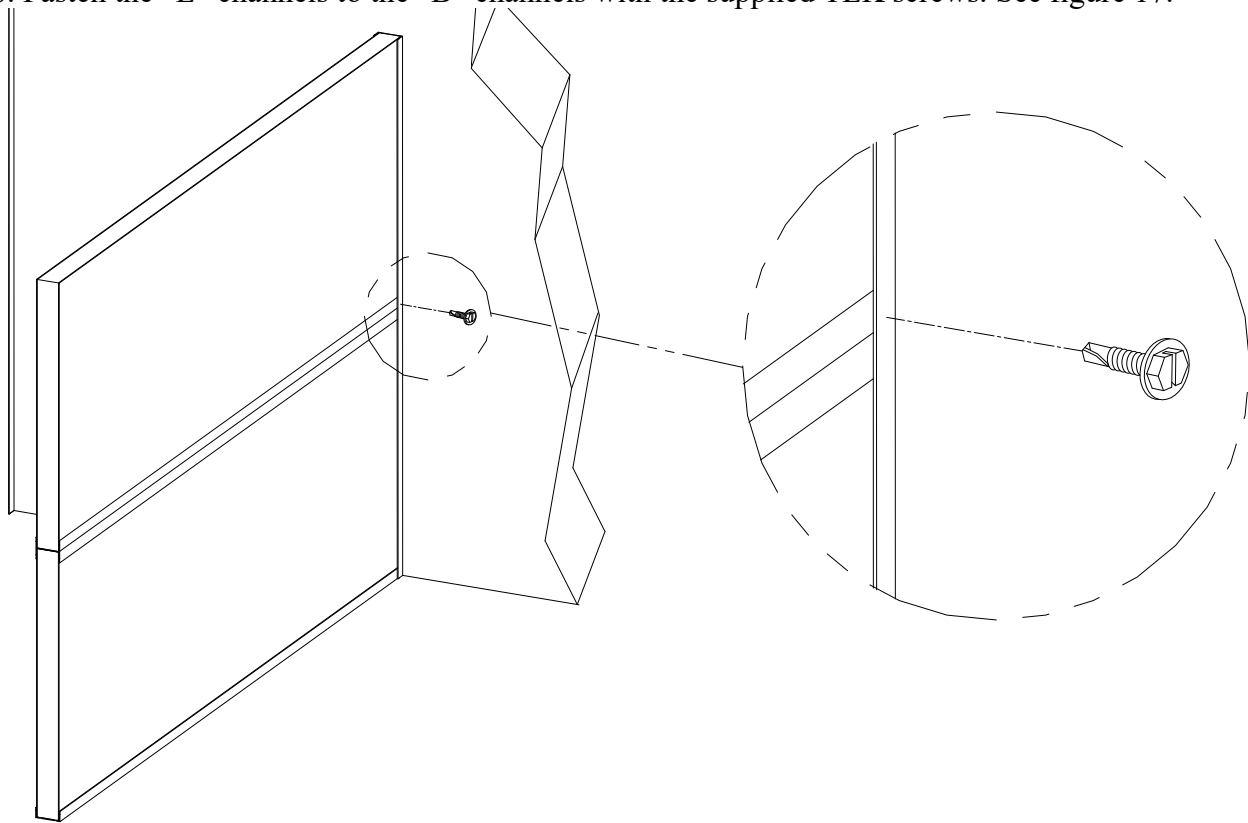

Figure 17
10. Fasten the “E” channels to the “B” channels with the supplied TEK screws. See figure 17.